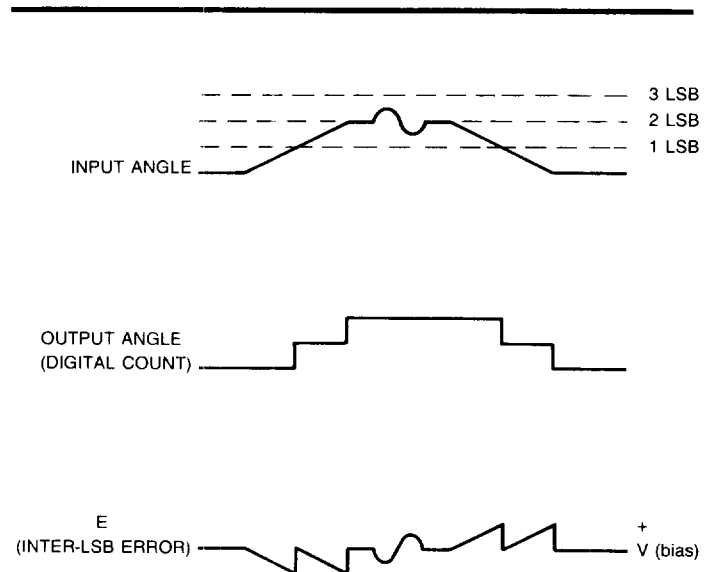

FIGURE 16 "E" dc Error (Inter-LSB Error) Waveforms
"E," the dc Error (Inter-LSB Error), provides a dc output voltage that is proportional to the difference between the digital position output and the actual shaft angle input (between LSB counts). The actual input shaft angle is equal to the digital output angle "minus" the Inter-LSB output (E). This output can be used to further resolve the input shaft angle. The nominal scale factor is -1 V-dc per +1 LSB of "Inter-LSB" error. The nominal output voltage range is ± 0.8 V-dc (with respect to V "bias"), which is equivalent to converter hysteresis +1 LSB. Figure 16 shows detailed waveforms for this "Inter-LSB Error."